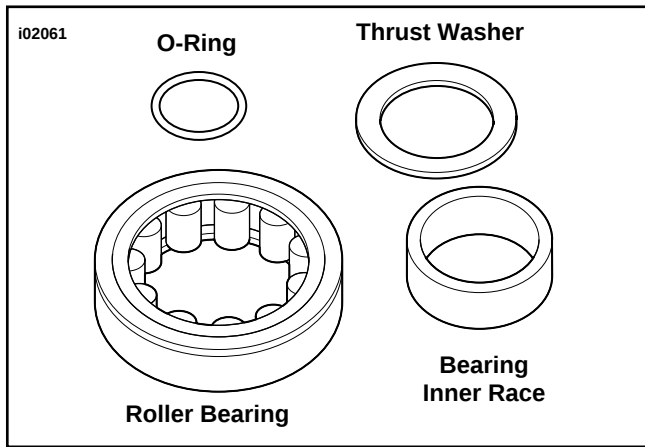

Figure 1. Rear Cam Roller Bearing Kit (Part number 8983)
1. See Figure 1. Install new Rear Cam Roller Bearing (part number 8983) according to the following: